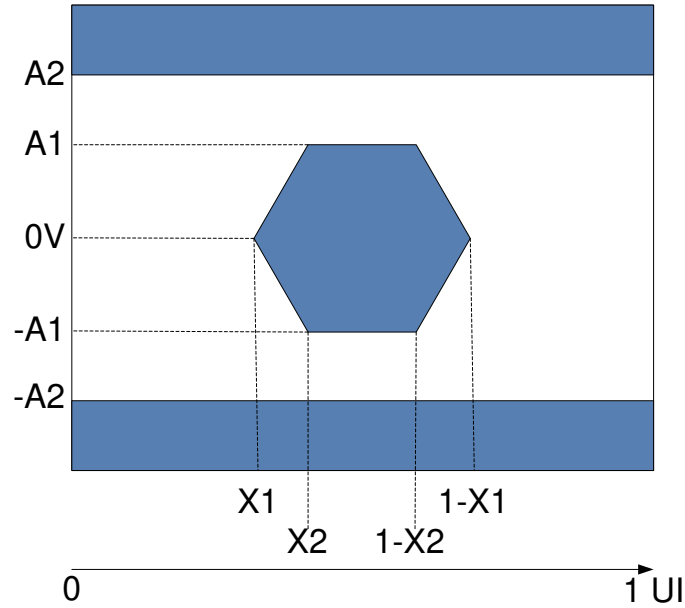

图 6-12. HSSI Eye Characteristics
(1) All power supply connections are required to operate the DMD: V_{DD}, V_{D_{DA}}, V_{OFFSET}, V_{BIAS}, and V_{RESET}. All V_{SS} connections are required to operate the DMD.
(2) All voltage values are with respect to the ground pins (V_{SS}).
(3) To prevent excess current, the supply voltage delta | V_{D_{DA}} - V_{DD} | must be less than specified limit.
(4) To prevent excess current, the supply voltage delta | V_{BIAS} - V_{OFFSET} | must be less than specified limit.
(5) Supply power dissipation based on 3 global resets in 200 μs.
(6) LVC MOS input specifications are for pin DMD_DEN_ARSTZ.
(7) LVC MOS output specification is for pins LS_RDATA_A and LS_RDATA_B.
(8) Refer to Figure 6-12 (1e-12 BER).
(9) Defined in Recommended Operation Conditions.